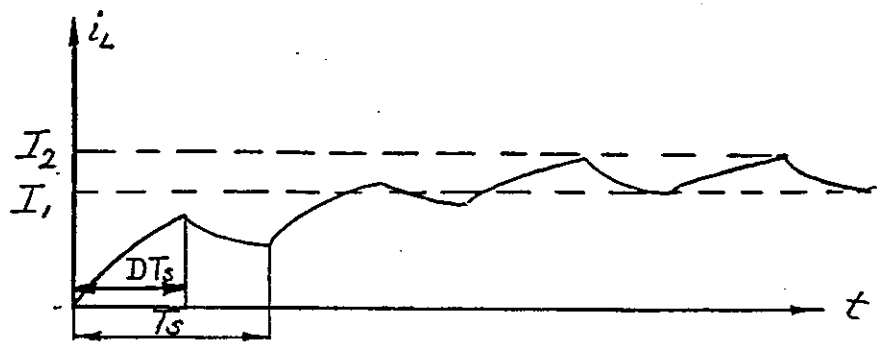

Fig. 2 Inductor Current Waveform
- a. After a large number of cycles the inductor current becomes periodic and the steady-state is established as shown in Fig. 2. From the fundamental differential equations determine exactly the current levels  $I_1$  and  $I_2$  characterizing this steady state.